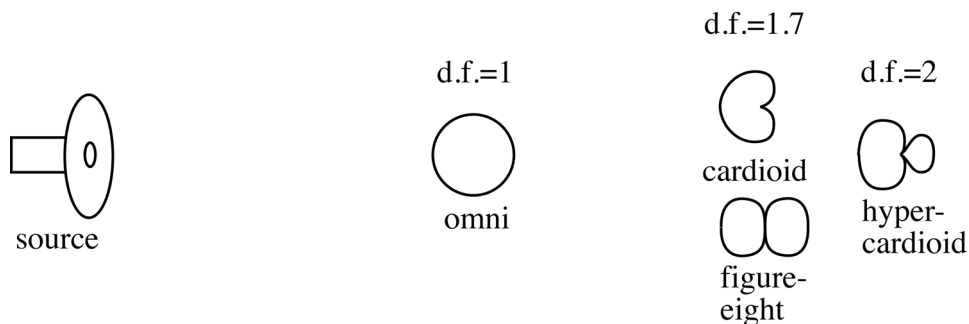

Fig.3 Distance factor
sound will appear in the guitar microphone. Since off-axis sounds are generally ambient sounds, the ratio of on-axis to off-axis pickup gives a measure of the microphone's ability to focus on the desired direct sound and reject ambient sound. This characteristic is known as the "reach" of the microphone, a measure of how far the microphone may be placed from the source while maintaining the ratio of direct to reflected sound. It is often desirable to place microphones at some distance from an instrument, since that allows sound radiated from the whole instrument to be picked up. A simple measure of a microphone's directional selectivity is the distance factor (DF), whereby the microphone's selectivity is measured against that of the omnidirectional pattern. With the omnidirectional DF=1, the cardioid and figure-eight have DFs of 1.7 and the hypercardioid has a DF of 2, hence a hypercardioid can be twice as far from the source as an omnidirectional and maintain the same ratio of direct to ambient sound. Other ways to measure this characteristic include the random energy efficiency (REE) and the directivity factor. All give essentially the same information. Figure 3 shows the relative distances for equivalent direct-to-ambient pickup.